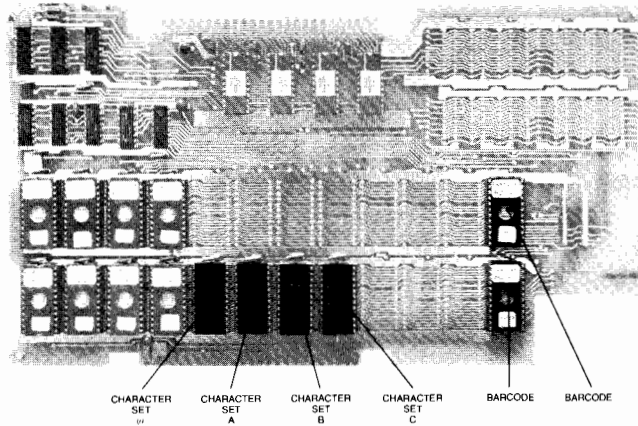

Figure 1
2. The character sets and bar code ROMs must be removed from the original PCA (24K PROM, P/N 02631-60102 or 02631-60602) and transferred to the current PCA (Control/ROM, P/N 02631-60626). See Figures 1 and 2 on back.
7. Reconnect the scope probes to test points A & B, syncing on A. Loosen the screw holding the encoder assembly and move the encoder inward as far as possible, then back it out slightly until the waveform shown in figure 1 is observed.
9. Move the scope sync probes to test points C and D again and verify a similar waveform to that shown in figure 1. (The frequency of the waveform will vary from the waveform observed in step 7.) Note that the 90° phase shift must occur on A vs. B and C vs. D simultaneously. It is a trial and error process to find an encoder position that satisfies this.